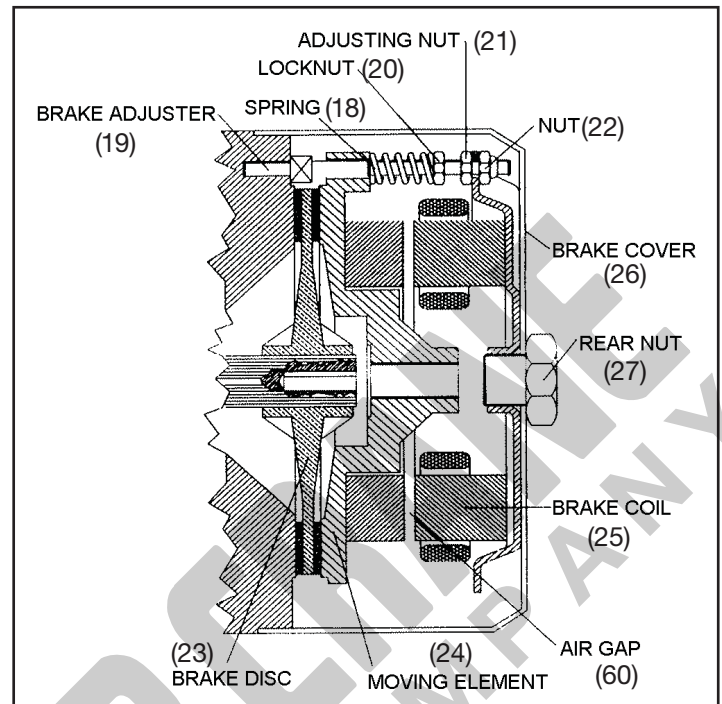

Figure 5-8b. MGM Motor Brake
that no play should be between the brake disc and the brake disc hub in correspondence of the hub nails. Verify periodically that the braking torque is suitable. If needed, proceed to its adjustment as stated in the paragraph "Braking Torque Adjustment". Verify regularly the brake adjuster (19-42) wear conditions and their steady fastening on the rear cover brake Figure 5-8b. MGM Motor Brake surface (17). All brake assembly components, in particular the brake disc (23, 39-41 for BAF series, 45 for BAPV) and the brake adjusters (19, 42 for BAF-BAPV series) are subject to wear. In consideration of safety it's needed to replace them periodically. The replacement frequency comes from the motor duty (number of start/stop, applied moment of inertia, environment conditions and so on), we recommend however to replace them at least every 18 months. Periodically check and verify the shaft splines wear, exactly where the disc slides.